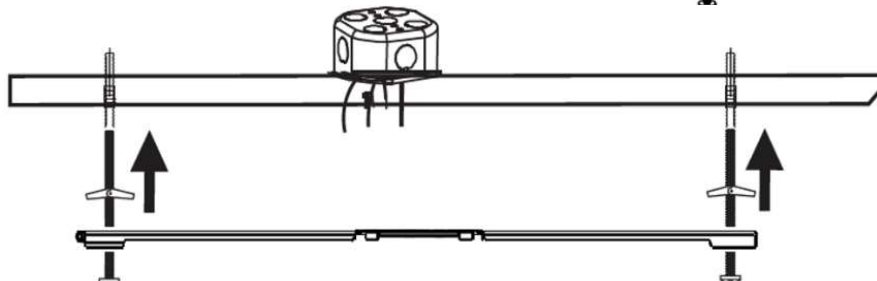

Figure 5B
- Toggle nut is folded and pushed through each of the drilled holes, see Figure 5B